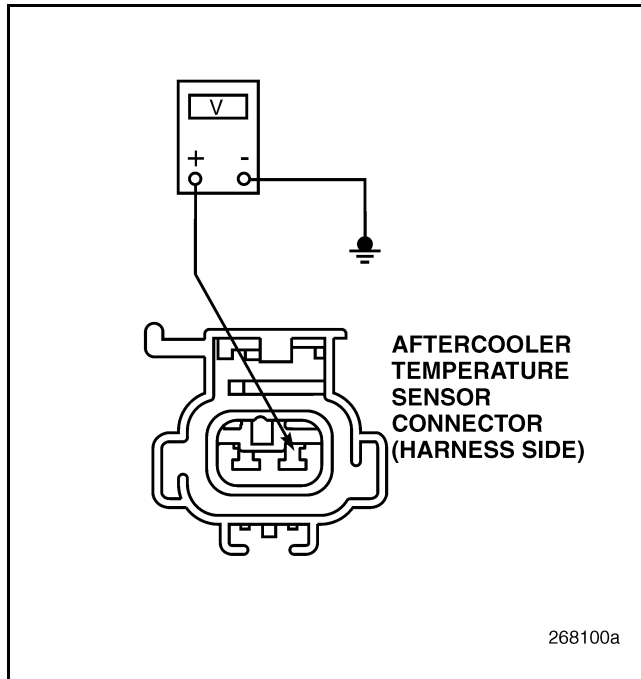

Figure 808
5. Measure the voltage between pin 1 of the AOT Sensor harness connector and a good ground (see Figure 808).